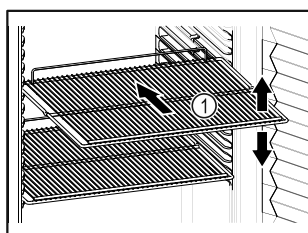

Fig. 56
- If there are adjustable shelves Fig. 56 (1), position them as required.